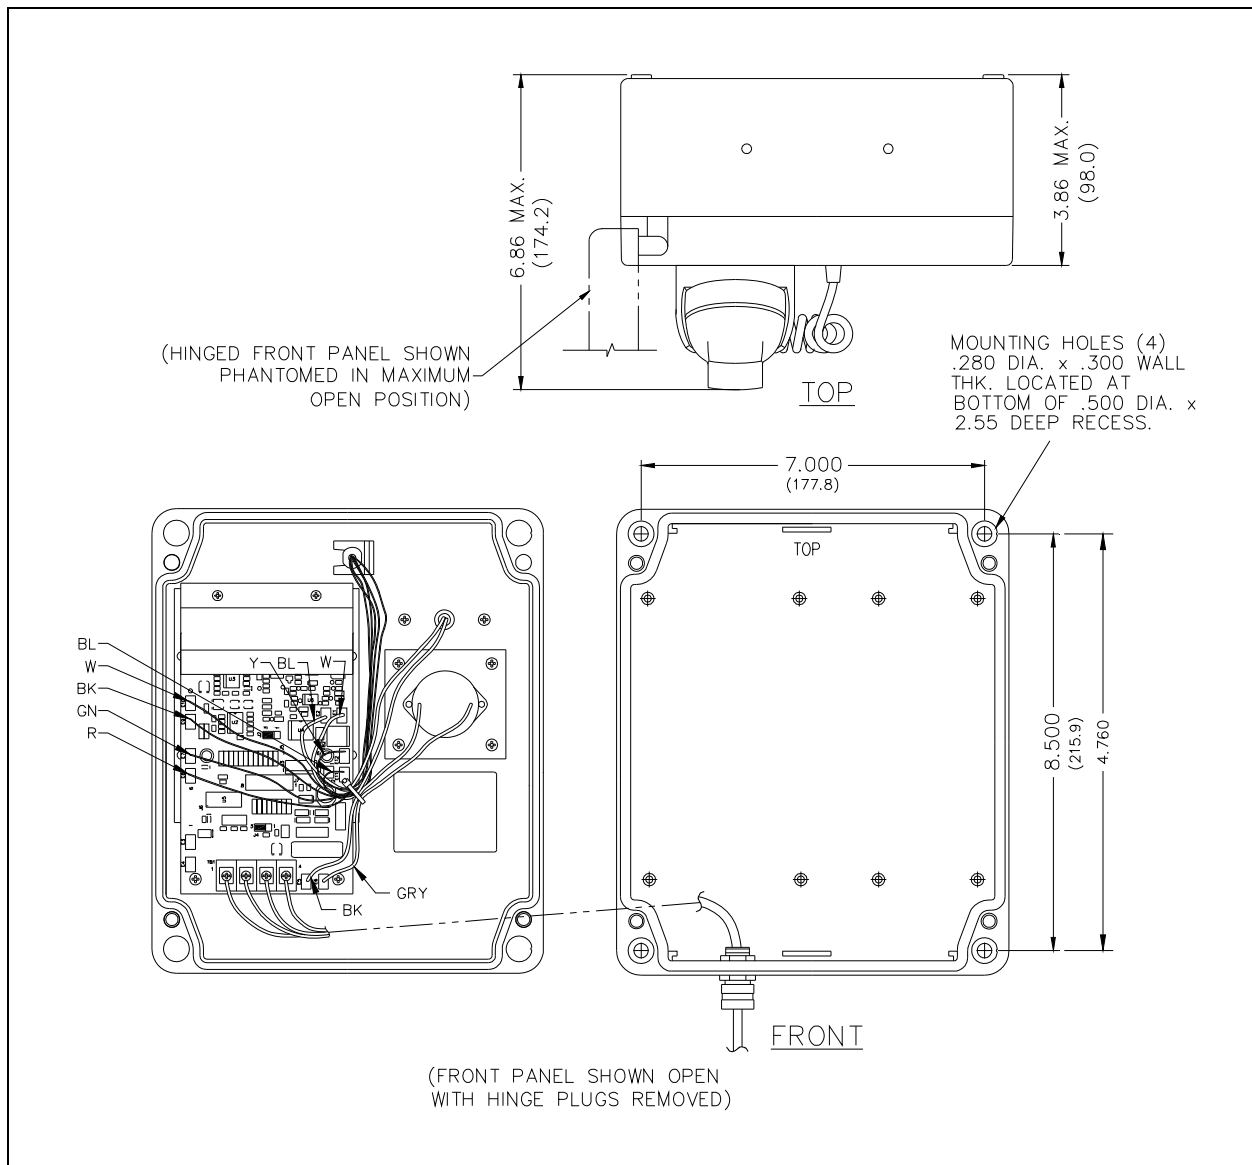

Figure 8. Model 247-001 Mounting Diagram
9. Mount the enclosure to the wall with four 1/4-20 machine screws with nuts and washers or with four #14 wood screws of the appropriate length for the mounting surface (see Figure 8).